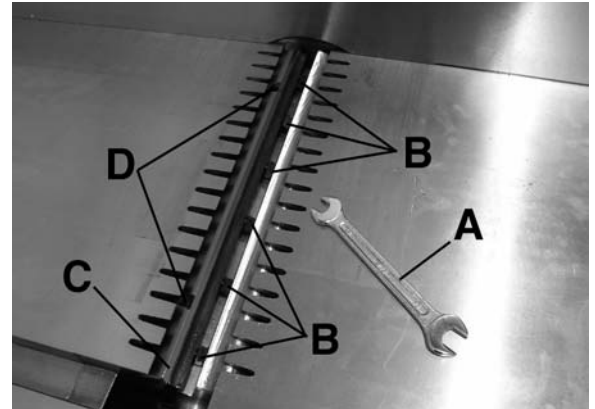

FIGURE 19
3. Using wrench (A) Fig. 19, slightly loosen the 6 locking screws (B) in each knife slot to relieve stress in the cutterhead by turning them clockwise.
4. Loosen screws further and remove the knives (C) from the cutterhead.
5. When the three knives are removed from the cutterhead, lower the two knife raising "jackscrews" with a hex. key by turning the two screws (D) counterclockwise. Then lower the knife raising "jackscrews" in each of the two remaining cutterhead slots in the same manner.